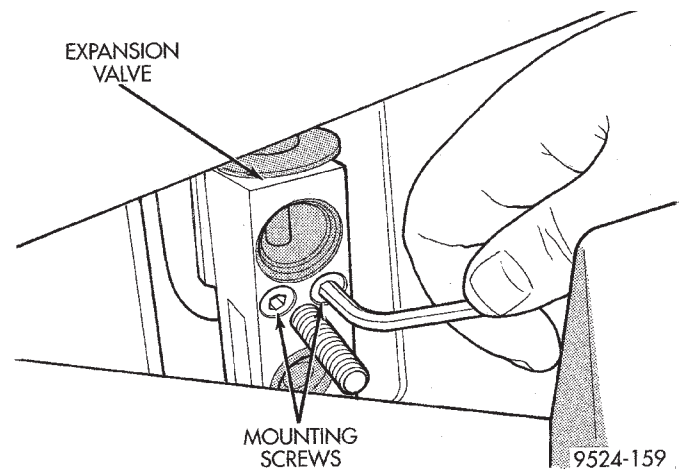

Fig. 28 Expansion Valve Stud and Mounting Screws
- (9) Remove the stud from the expansion valve (Fig. 28).
- (10) Carefully pull the refrigerant line sealing plate assembly from expansion valve towards the front of the vehicle. Use care not to scratch the expansion valve sealing surfaces with pilot tubes.
- (11) Cover the openings to prevent contamination.
- (12) Remove two screws securing the expansion valve to the evaporator sealing plate (Fig. 28).
- (5) Remove the stud from the expansion valve (Fig. 28).
- (6) Remove liquid line from expansion valve.
- (7) Cover the openings to prevent contamination.
- (8) Disconnect wire connector at pressure transducer.
- (9) Remove liquid line mounting clip at right strut tower.
- (10) Using access slot between radiator crossmember and grille, loosen liquid line mounting plate at filter-drier. Remove liquid line from filter-drier.
- (11) Remove the old O-rings.